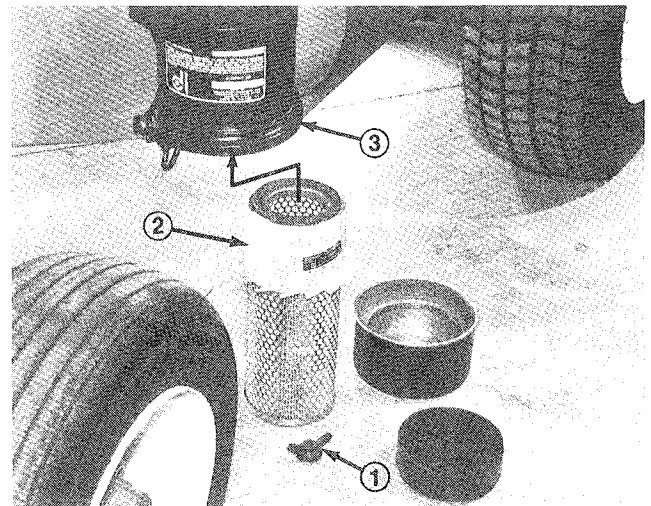

Figure 41
2. Remove wing nut w/gasket and slide filter element out of air cleaner body (Fig. 41).